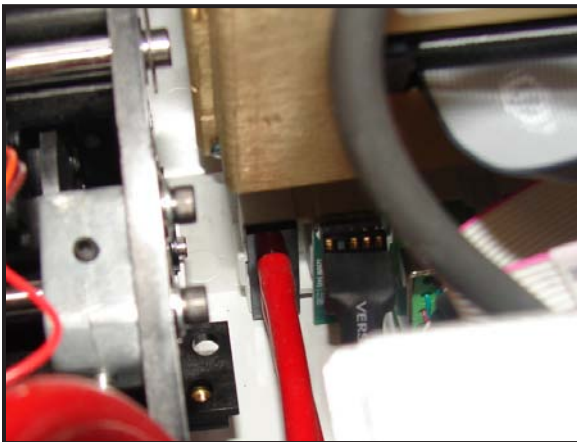

Figure 6-10
5. Pull and disconnect the two red pneumatics tubes from the NIBP connector on the back of the bezel (See Figure 6-10).